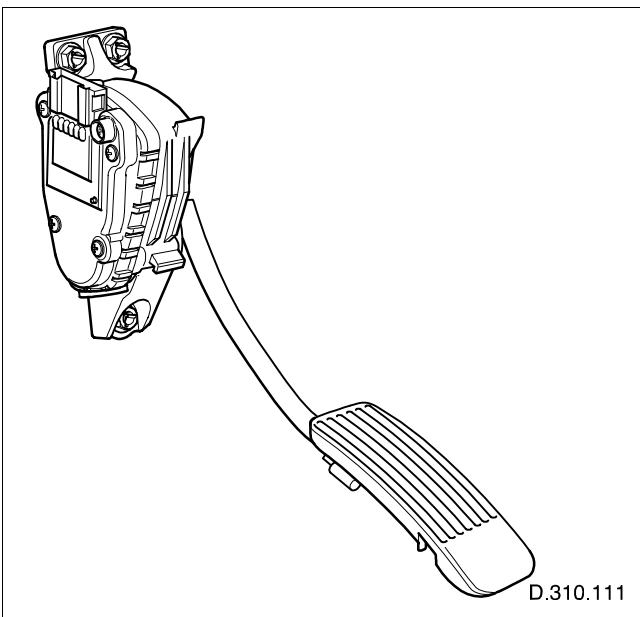

Fig. 26 Accelerator pedal position sensor
- Throttle position is operated by the throttle motor via signals received from the accelerator pedal position sensor, via the ECM; refer to **Fig. 26**